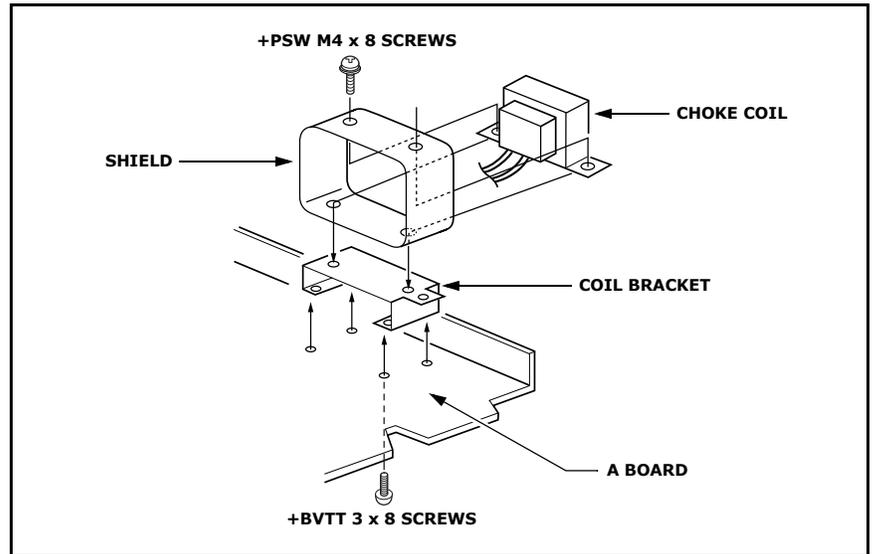

Figure 1
2. Install a new choke coil as shown in Figure 1.